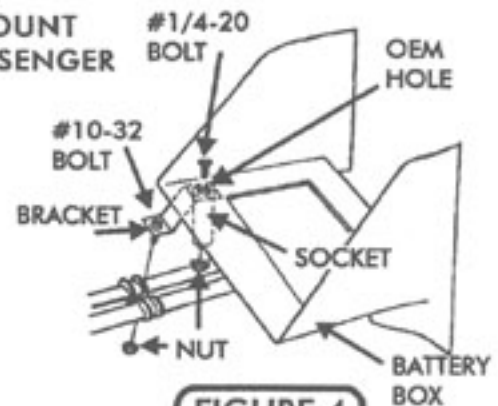

FIGURE 4
- LOCATE OEM HOLE IN THE BATTERY BOX AS SHOWN. ATTACH HARDLINE SUPPORT BRACKET BY LAYING THE SUPPLIED FLAT HEAD BOLT IN THE HOLE AND SUPPORT BATTERY BOX ON A 1/2" SOCKET. TAP HEAD OF BOLT UNTIL IT'S FLUSH TO PREVENT DAMAGE TO BOTTOM OF BATTERY. SEE FIGURE 4.
- ATTACH HARDLINES TO PREVIOUSLY INSTALLED TUBING CLAMP UNDER BATTERY BOX MAKING SURE THE HARDLINES DO NOT RUB EACH OTHER OR THE TRUCK (SEE FIGURES 4 & 5).